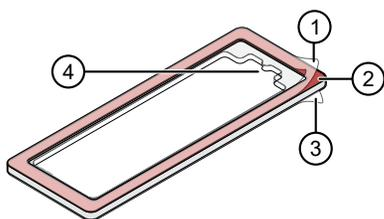

Figure 10 OpenArray™ Lid
6. Remove the clear protective film from the outside of the OpenArray™ Case (sealed plate + lid). See Figure 10 on page 118.